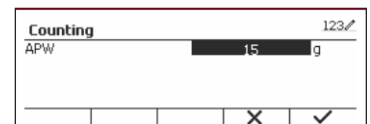

Figure 44
2. Press the softkey corresponding to the ✓ icon to edit the APW value using the alphanumeric keypad. (See Figure 44)